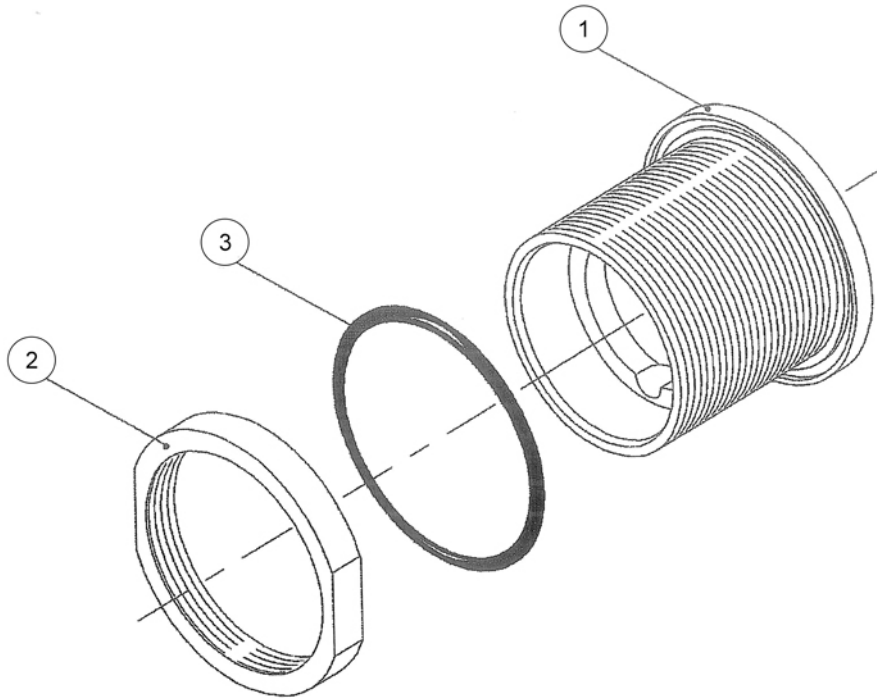

Fig 4.11 Corrective Maintenance Under Penetrator (Typical)
2. Using the duct spanner (Divex Part No. M2921B) engaged in upper penetrator slots and the locknut spanner (Divex Part No. M2920) from the Tool and Test Kit, undo the locknut (Fig 4.11, Item 2 & Fig 4.1, Item 15) and remove.
5. Fit a new O-ring (Fig 4.11, Item 3) to the upper penetrator (Fig 4.11, Item 1) and apply a bead of silicone sealant (Divex Part No. SM006) around the sealing face of the penetrator.
6. Re-install the penetrator into the scrubber housing and refit the locknut (Fig 4.11, Item 2) using the tools described in Step 2 above, and with a moistened finger carefully wipe the excess silicone sealant smooth before it sets.
3. Using the duct spanner (Divex Part No. M2921B) engaged in the upper penetrator slots and the locknut spanner (Divex Part No. M2920) from the Tool and Test Kit, undo the locknut (Fig 4.11, Item 2) and remove.
6. Fit a new O-ring (Fig 4.11, Item 3) to the upper penetrator (Fig 4.11, Item 1) and apply a bead of silicone sealant (Divex Part No. SM006) around the sealing face of the penetrator.
7. Re-install the penetrator into the scrubber housing and refit the locknut (Fig 4.11, Item 2) using the tools described in Step 3 above, and with a moistened finger carefully wipe the excess silicone sealant smooth before it sets.